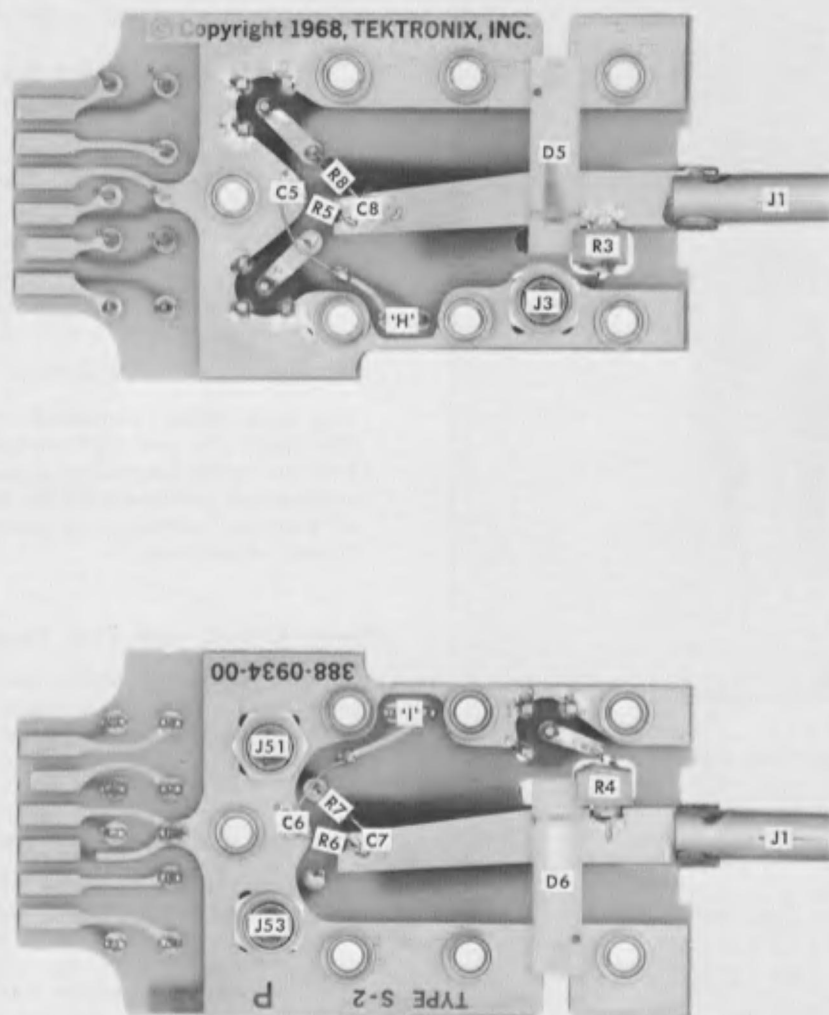

Fig. 4-3. Sampler circuit board, shields removed.
1. Loosen the threaded nut by turning it counterclockwise with the special Tektronix tool, Part No. 003-0607-00. Do not remove the threaded nut, but back it off just enough to free the notched plate (see Fig. 4-3).